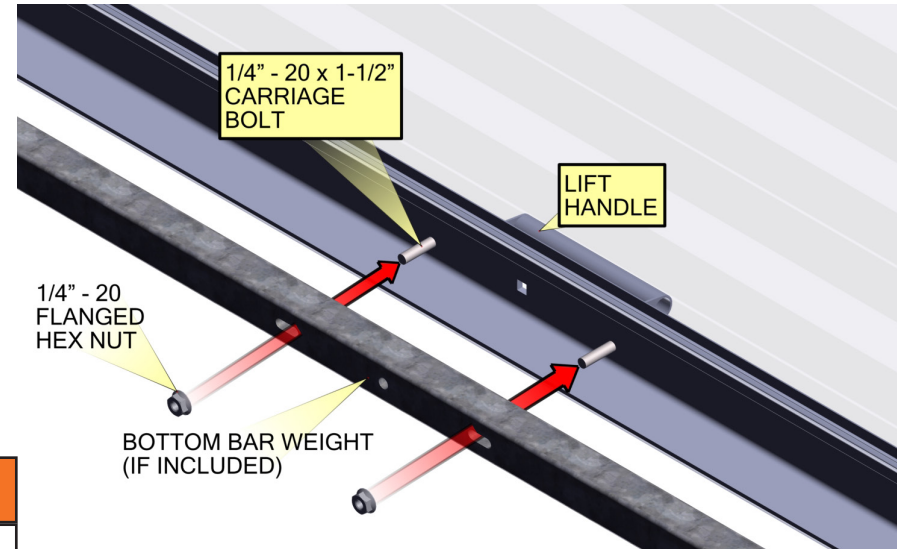

FIG 15
- Install a lift handle and the bottom bar weight (if included) centered on the coil or inside of the door using 1/4" - 20 x 1-1/2" carriage bolts and 1/4" - 20 flange hex nuts to assemble the handle, bottom bar, and bottom bar weight together. See FIG 15.